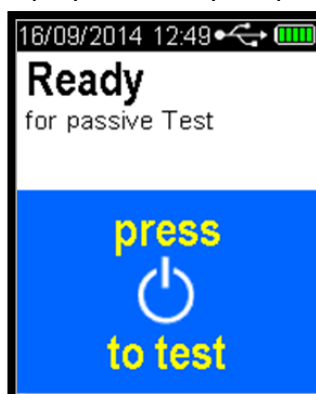

Figure 14 Ready for Passive Test Message
- The instrument will then display the Ready for passive test screen (Refer Figure 14).